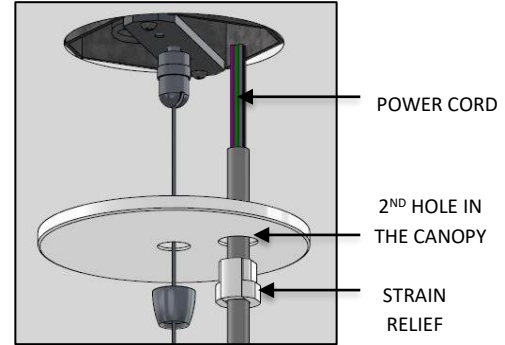

FIG. 27 - CORD INSTALLATION
15. Feed POWER CORD through the 2ND HOLE IN THE CANOPY and secure at desired length by using the STRAIN RELIEF provided as shown below in FIG. 27.